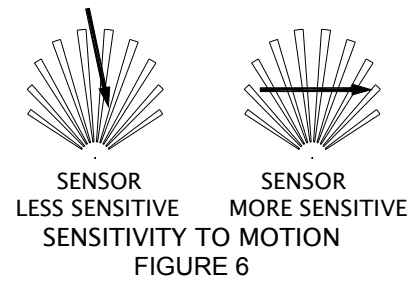

FIGURE 6
- Prior to mounting, keep in mind that the motion sensor is more sensitive to the motion, which is across the detection field and less sensitive to the motion, which moves directly towards the detector (FIGURE 6).